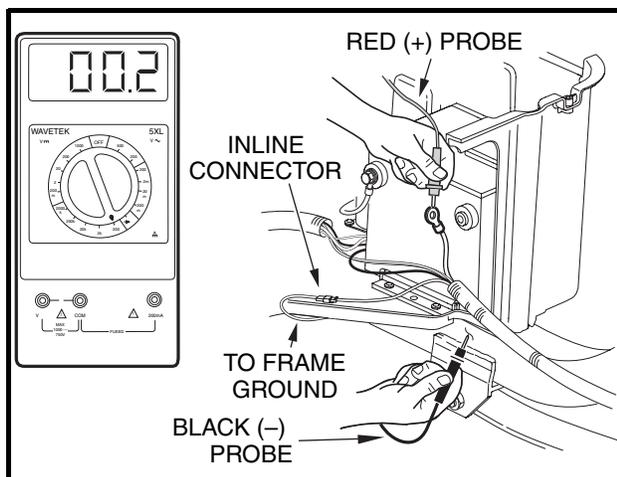

Figure 11-11 Battery Ground Cable Test
- 4.2. Set the multimeter to 200 ohms. Place the red (+) probe on the unconnected end of the 6-gauge black cable, and place the black (-) probe on the vehicle frame (**Figure 11-11, Page 11-16**). The reading should be continuity. If the reading is incorrect, ensure that terminal connections are clean and tight. If the connections are good and the reading is incorrect, check that the in-line connector is secure, repair or replace the cable.